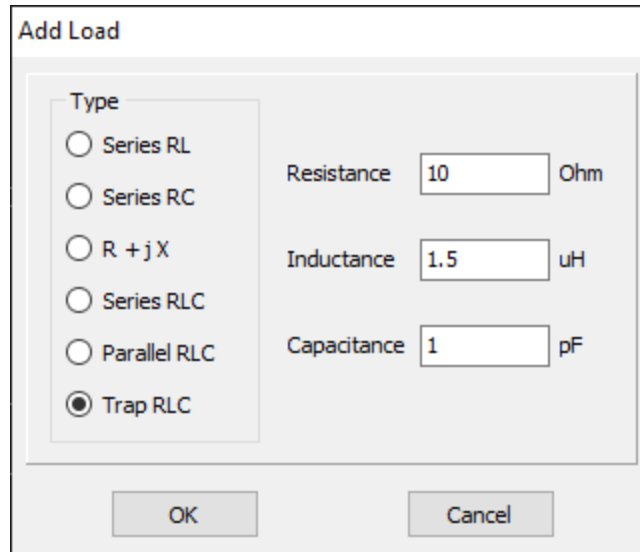

Fig. 3: Dialog box for adding a load to a wire segment.
- Opens a dialog to add a load to the selected segment (**Fig. 3**).